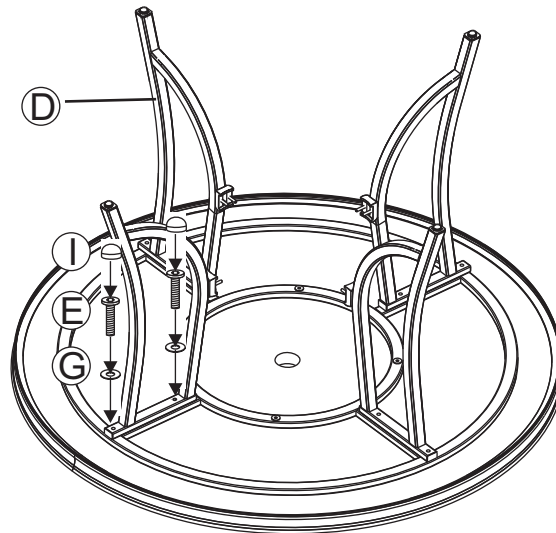

Figure 2
- 2 Attach a table leg to the top connector bracket by using two bolts and $\text{Ø}6.5 \times 1.0$ mm washers as shown in **Figure 2**. **Hand tighten 2-3 turns only.** Repeat for the other legs.
- 3 Attach a table leg to the leg connector bracket by carefully guiding the bolts already in place on the table legs (each leg has two bolts) through the holes in the leg connector bracket. Add a $\text{Ø}6.5 \times 1.0$ mm washer and a nut to the end of each bolt as shown in the **Figure 2**. **Hand tighten 2-3 turns only.** Repeat on the other three legs.
- 1** **Important: We recommend 2 people work together to assemble the chair.** Note the arrow labels on the "U" bar and the rocker assembly. Also note the horseshoe shape of the rocker plate. Point the open end of the horseshoe away from you. The arrows on the rocker assembly should be pointing towards you. Set the chair frame on the rocker assembly with front of the seat facing you and the arrows on the "U" bar pointing towards you as shown in **Figure 2**. This is very important for a safe, balanced rocking motion. **If chair frame has been properly positioned on the rocker assembly, all arrows on the "U" bar and rocker assembly will be pointing in the same direction.**